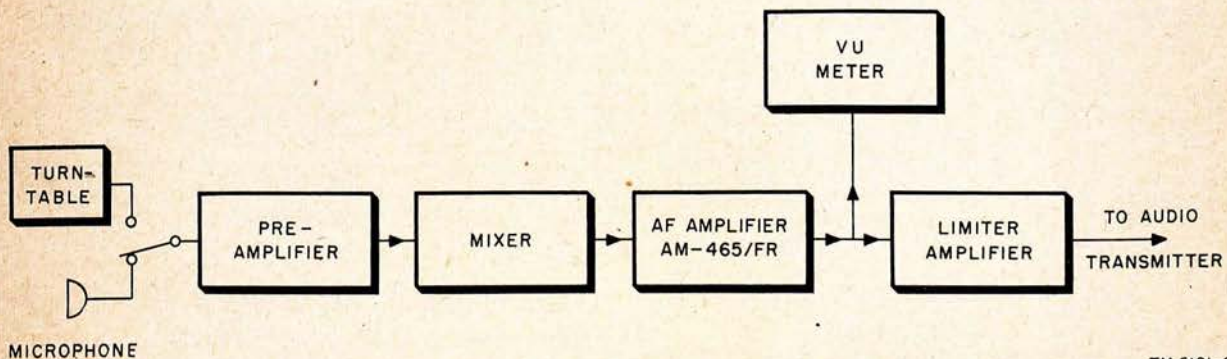

Figure 2. AF Amplifier AM-465/FR, system application.
a. AF Amplifier AM-465/FR is used to provide a signal level suitable for audio transmitter inputs. Terminal interconnecting plugs, supplied with the equipment as accessories, are used for interconnecting units. A simplified block diagram in figure 2 indicates the system set up. In